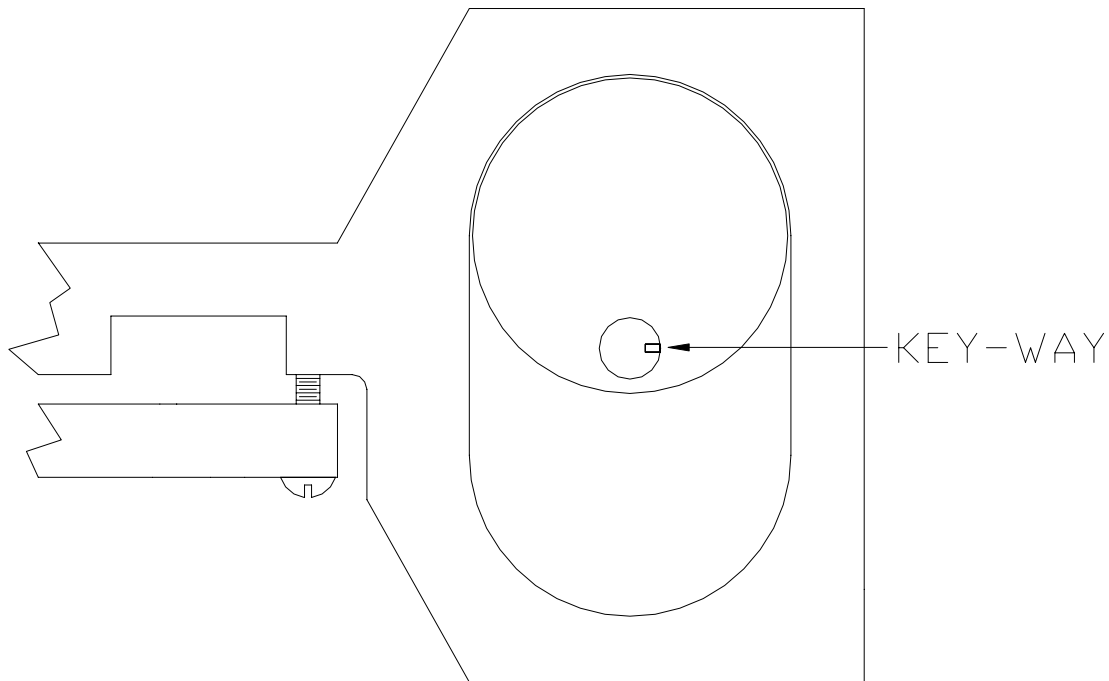

FIGURE 1
1. TDC oscillation cam per Figure 1. This can be done by two methods; disconnect motor coupling and adjust using vise grips / channel locks or use electrical controls too slowly position cam.